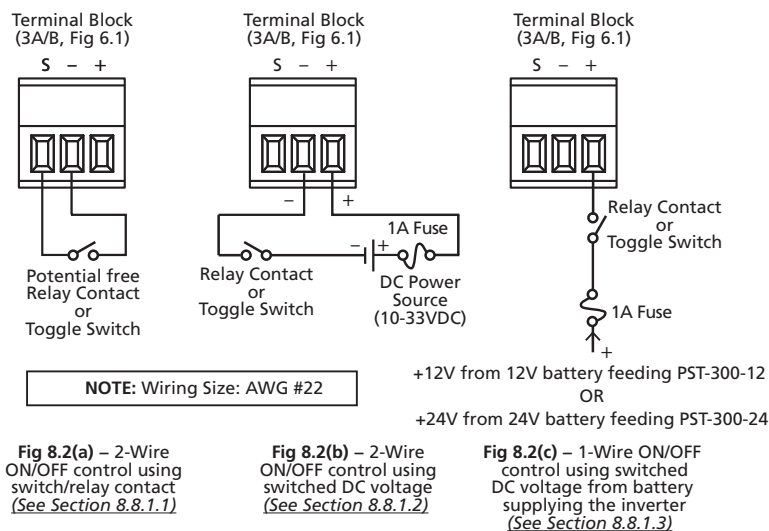

Fig. 8.2: ON/OFF Control from Remote Location using External 2-Wire or 1-Wire Control
The unit can be switched ON/OFF from a remote location using external, wired ON/OFF control options as shown in Fig 8.2(a), (b) and (c) and associated details at Sections 8.8.1.1 to 8.8.1.3.
8.8.1.1 2-Wire ON/OFF Control from Remote Location Using Switch/Relay Contact, Fig 8.2(a):
8.8.1.2 2-Wire ON/OFF Control Using Switched DC Voltage (10-33VDC), Fig 8.2(b):
8.8.1.3 1-Wire ON/OFF Control Using Switched DC Voltage from the Battery Supplying the Inverter, Fig 8.2(c) :